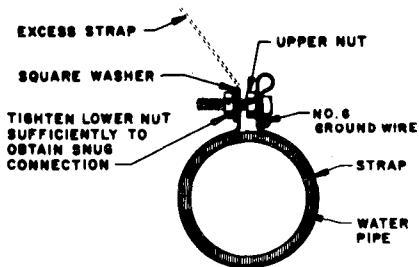
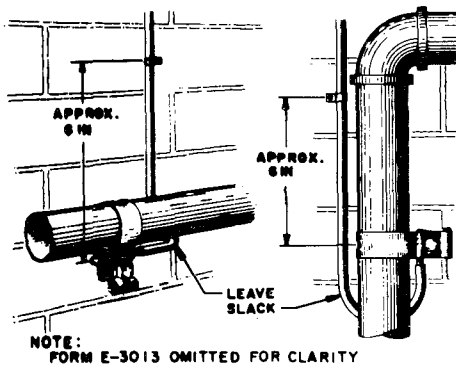

Fig. 45—Attaching L Ground Clamp to 3-Inch and Smaller Pipe
Fig. 46—Typical Installation—L Ground Clamp
(7) Break off excess strap at the square washer and cut off excess length of bolt if it interferes with the installation of the clamp or projects in a hazardous manner (Fig. 45). (See Fig. 46 for typical installations of L ground clamp.)